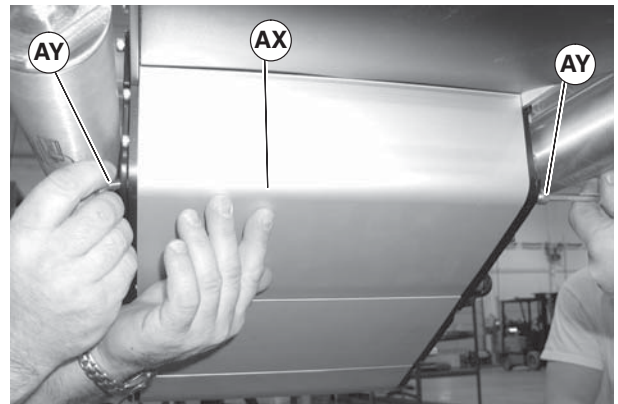

Figure 89
2. Temporarily support idler guard assembly (Figure 89, item AX). Remove screws (AY).